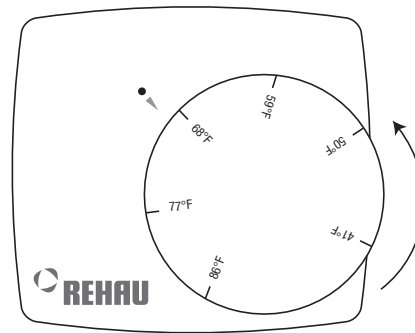

Fig. 9: Turn dial to lower limit setting
1. To set the lower limit, turn the dial to the desired minimum temperature (see Fig. 9).